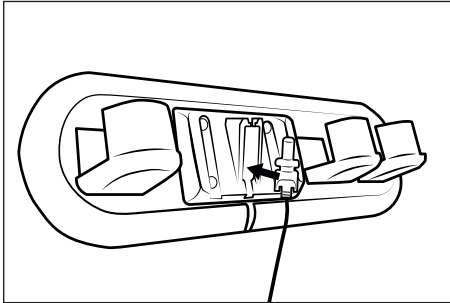

Fig. 4
- 1) Remove the wall bracket **18** from the accessories holder **17**. Insert the barrel plug **11** of the mains adapter **10** into the wall bracket **18** as shown in the illustration below. Secure the barrel plug **11** by turning it (see Fig. 4).